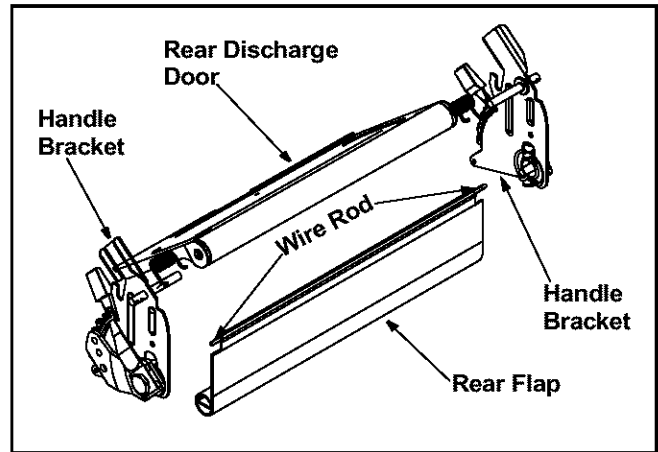

Figure 13
- To remove rear flap, cut off the flat end of the wire rod which secures it to the deck. See Figure 13.